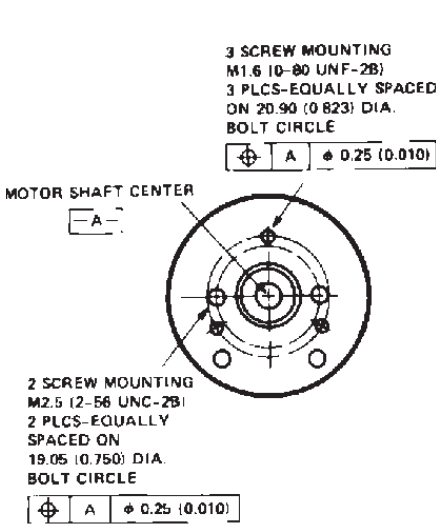
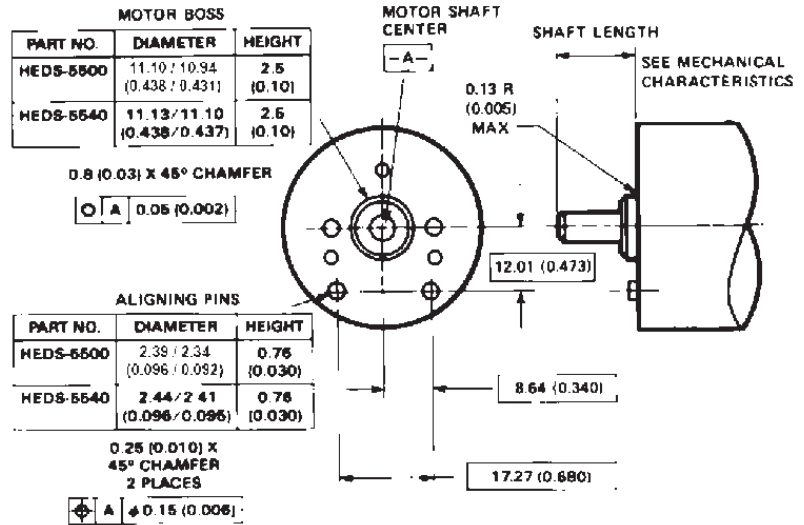
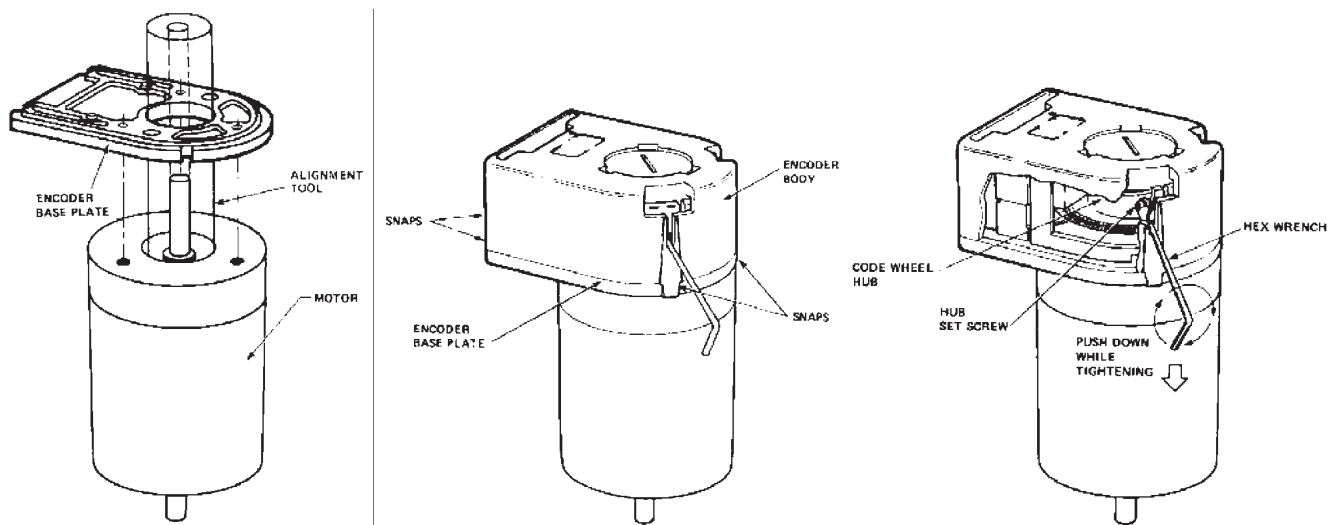

Figure 2. Mounting Holes.
Figure 3. Optional Mounting Aids.
Figure 4. Mounting with External Ears.
- The HEDS-5540 and 5640 must be aligned using the aligning pins as specified in Figure 3, or using the alignment tool as shown in "Encoder Mounting and Assembly". See also "Mounting Considerations."
The HEDS-5540 and 5640 three channel encoders and the HEDM Series high resolution encoders must be aligned using the aligning pins as specified in Figure 3, or using the HEDS-8910 Alignment Tool as shown in Encoder Mounting and Assembly.
The use of aligning pins or alignment tool is recommended but not required to mount the HEDS-5500 and 5600. If these two channel encoders are attached to a motor with the screw sizes and mounting tolerances specified in the mechanical characteristics section without any additional mounting bosses, the encoder output errors will be within the maximums specified in the encoding characteristics section. The HEDS-5500 and 5540 can be mounted to a motor using either the two screw or three screw mounting option as shown in Figure 2. The optional aligning pins shown in Figure 3 can be used with either mounting option. The HEDS-5600, 5640, and HEDM-5600 have external mounting ears which may be used for mounting to larger motor base plates. Figure 4 shows the necessary mounting holes with optional aligning pins and motor boss.